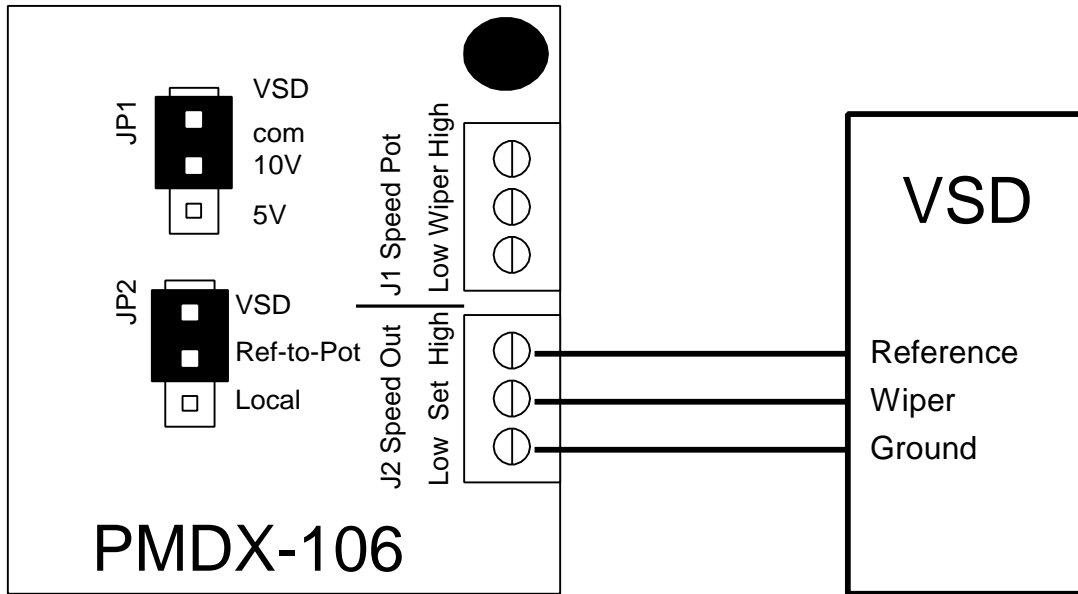

Figure 7 – Example Ratiometric VSD Connections & Jumper Settings
- Potentiometer (ratiometric) The VSD expects to be connected to an external potentiometer. In this case, the VSD provides the analog reference voltage to the PMDX-106's analog output circuit. See Figure 7 for an example of the jumper settings and VSD connections for this configuration. The VSD must not apply greater than +15 volts to the PMDX-106 reference input at J2 pin 3 (referenced to J2 pin 1).